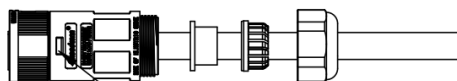

Figure 6-11-5 Insert the plastic core
- 5) Insert the plastic core into the main body, install the buckle in place, and hear a clicking sound, as shown in Figure 6-11-5.